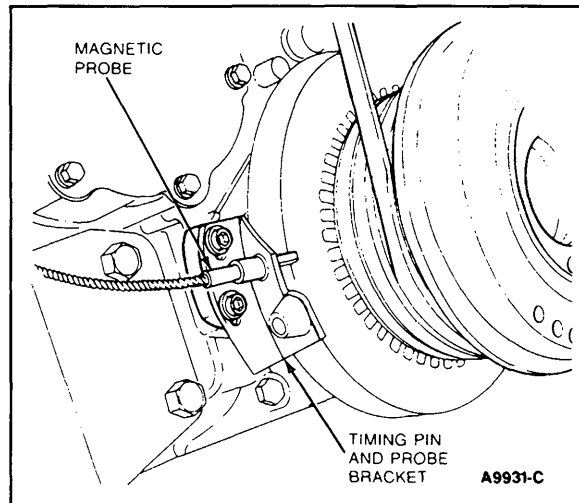

Figure 13 Inserting Magnetic Pickup Into Timing Bracket
1. With engine stopped, install Rotunda Dynamic Timing Meter 078-00200 or equivalent. Place the magnetic pickup into the timing bracket pointer hole (Figure 13). Attach the connector from the pickup to the meter lead.